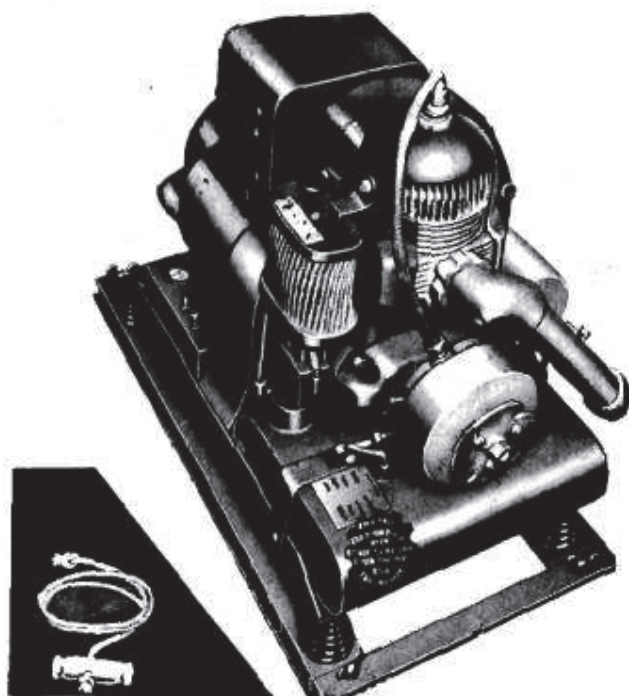

Figure 3 — Auxiliary Power Plant
*g. AUXILIARY POWER PLANT. (See figure 3.)*—The auxiliary power plant, stowed in the waist compartment, provides an output of 70 amperes to boost the electrical energy for starting the engines. It is a self-contained unit consisting of a 28.5-volt, 2000-watt dc generator, coupled to a one-cylinder, four-cycle magneto ignition internal combustion engine.